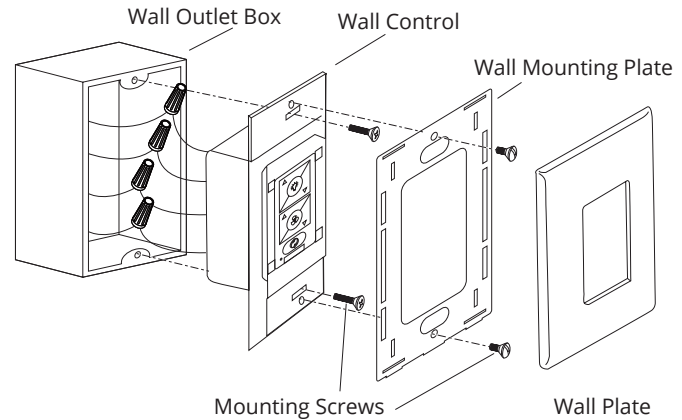

FIG.13
1. Carefully tuck the wire connections inside the outlet box. Secure the wall control with the 2 wall control screws provided (**FIG. 13**).